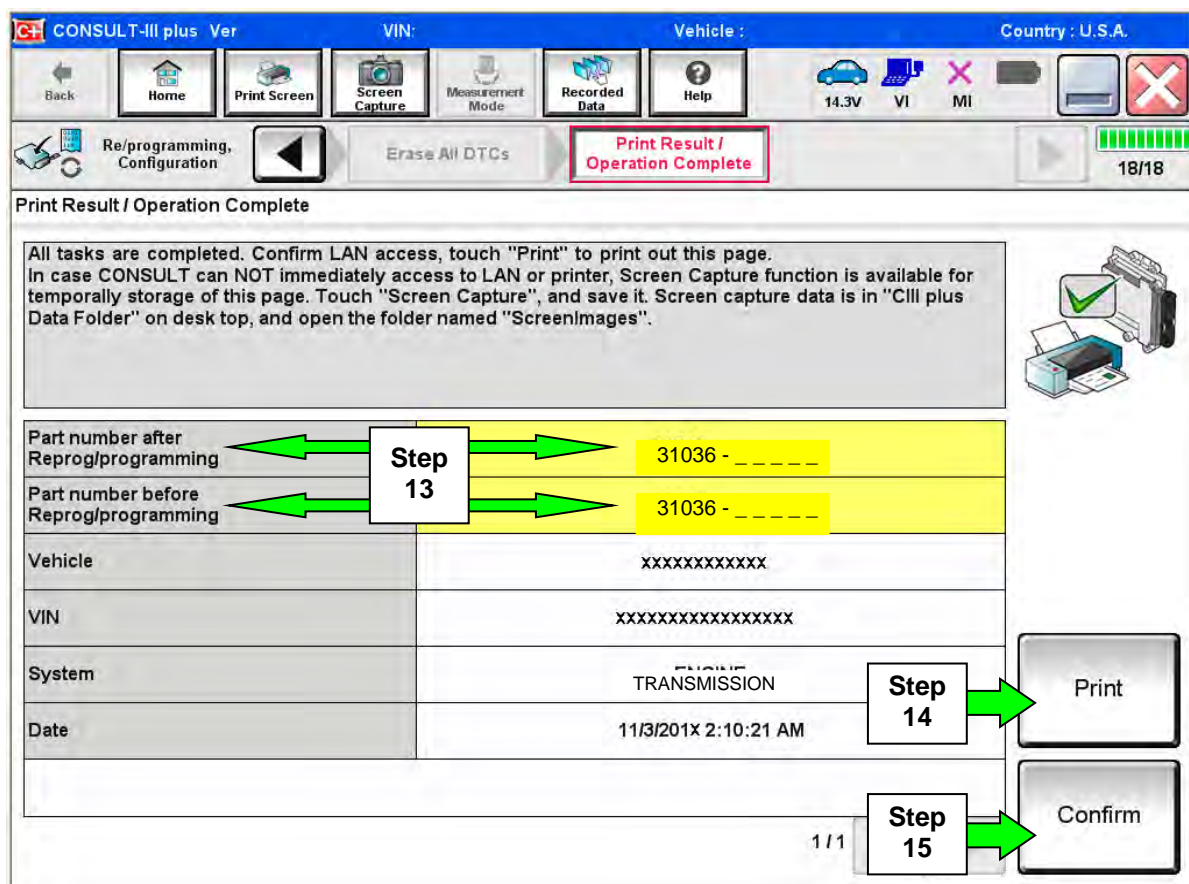

Figure 7K
12. When the entire reprogramming process is complete, the screen in Figure 7K will display.
14. Print a copy of this screen (Figure 7K) and attach it to the repair order for warranty documentation.